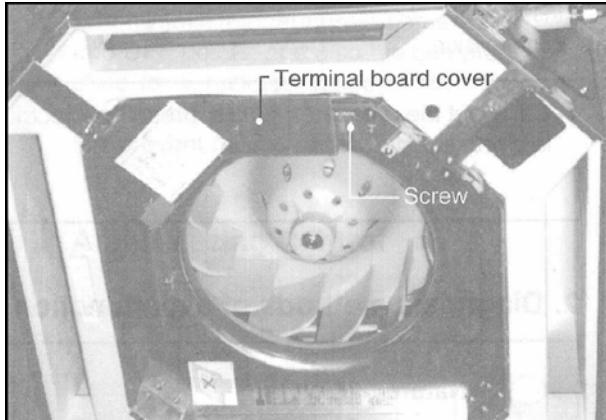

Fig. 2
- Remove the terminal cover by removing the screw (Fig. 2).